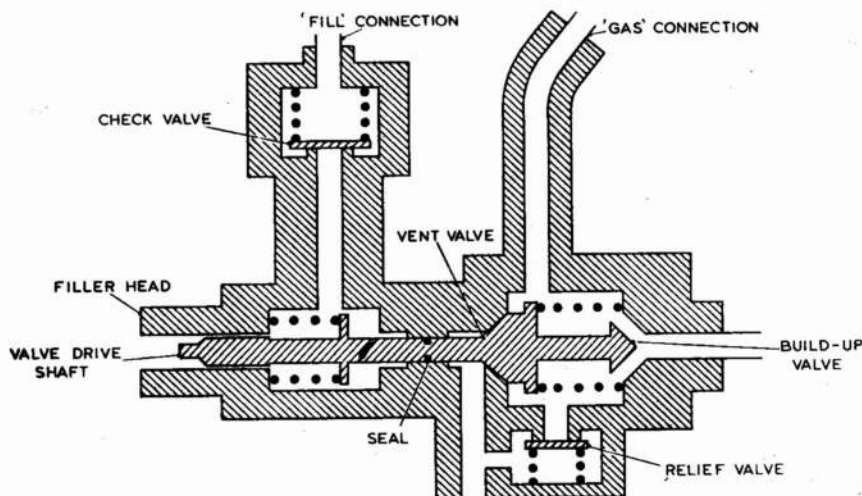

Fig. 3. Schematic diagram
7. A schematic diagram of the valve is shown in fig. 3. The filler head cover is removed by applying light pressure and turning counter-clockwise. When the connector of the liquid oxygen ground charging hose is connected to the filler head, a probe integral with the hose connector depresses the valve drive shaft, thereby closing the build-up valve and opening the vent valve. Liquid oxygen passes into the valve under pressure, unseats the check valve and is discharged through the 90° elbow connection inscribed FILL. When the valve is connected to a converter assembly, a pipeline interconnects the FILL connection with a connection on the lower side of the container. A pipeline from the top of the container is connected to the 90° elbow connection inscribed GAS, and the gas within the container passes through the open vent valve to the vent connection on the relief valve assembly.